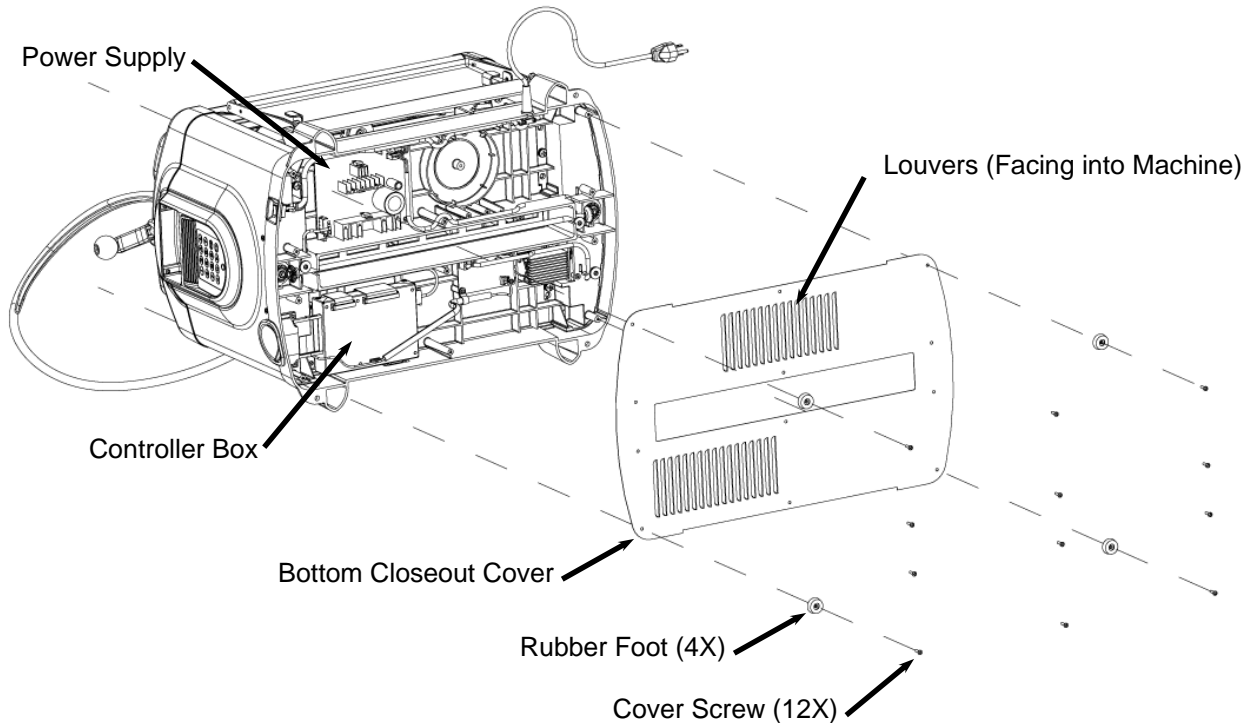

FIGURE 35: REMOVAL OF THE BOTTOM COVER
1. **Replace the bottom cover.** Replace the metal cover with the louvers pointing into the machine (see Figure 35). Insert and tighten the 12 screws. The four rubber feet are placed at the corners of the machine.